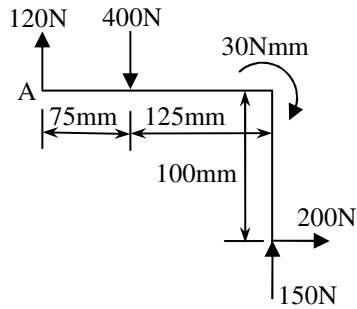

figure 2 [Q-2(b)]
- (b) Determine the magnitude direction and position of resultant force of the force system given in **figure 2** with reference to point A. **04**